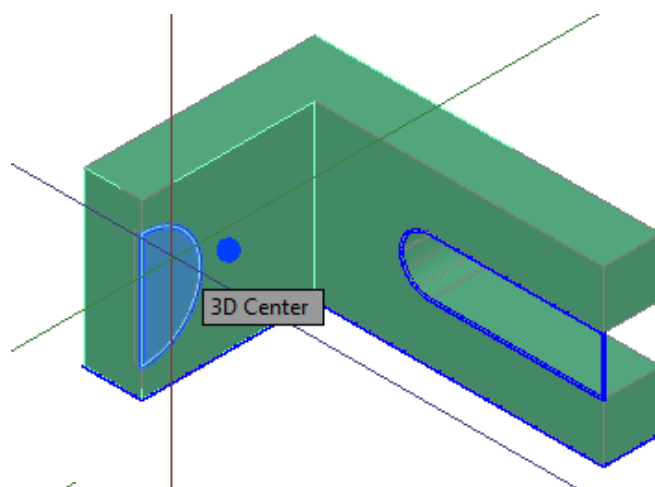

Figure Step 11A
Step 11 Using the same principle as Step 10, use the PRESSPULL command to extrude the other pline. (Figure Step 11A, 11B, and 11C)